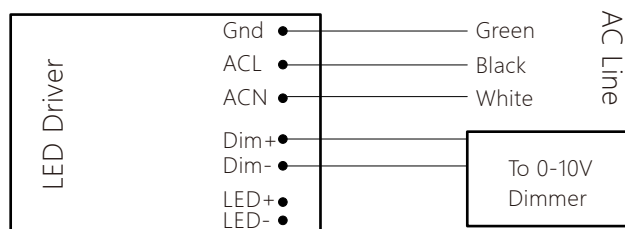

Figure 1
2.Connect wires as below(Figure 1).